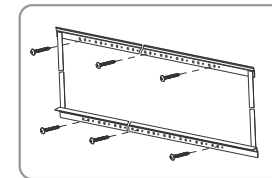

Figure 12
- Woody wall installation: Follow the screen installation step 3 and fix the $\phi 5 \times 40$ mm tapping screws to the holes in the top and down installation bars, three screws on each bar. (Figure 12)